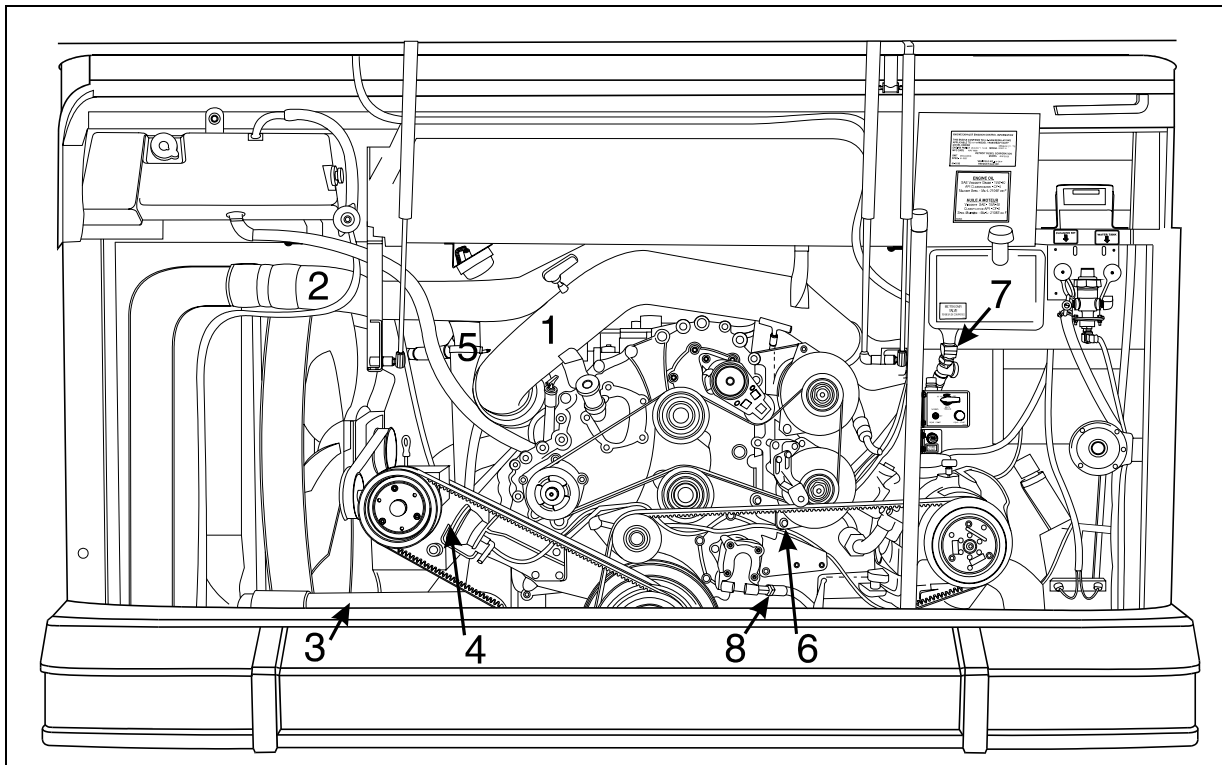

FIGURE 16: ENGINE COMPARTMENT
6. Disconnect and remove the engine-air intake duct mounted between air cleaner housing and turbocharger inlet (1, Fig. 16).
7. Disconnect and remove the air intake duct mounted between the air cooler outlet and the engine intake (2, Fig. 16).
8. Disconnect and remove section of coolant pipe assembly mounted between the radiator outlet and the water pump inlet (3, Fig. 16).
11. Dismantle the air bellow from the upper bracket of the fan-drive assembly tensioner. Remove the upper bracket (4, Fig. 16).
13. Disconnect and remove the air intake duct mounted between the turbocharger outlet and the air cooler inlet (5, Fig. 16).
19. Disconnect the block heater connector above the power steering pump (6, Fig. 16).
21. Disconnect the oil delivery hose from the valve located at the reserve tank drain (7, Fig. 16).
22. Disconnect the power steering pump supply and discharge hoses. Cap hose openings immediately to limit fluid loss. Remove retaining clips from cradle (8, Fig. 16).
1. Remove air intake duct (1, Fig. 16).
2. Remove the air intake duct mounted between the air cooler outlet and the engine intake (2, Fig. 16).